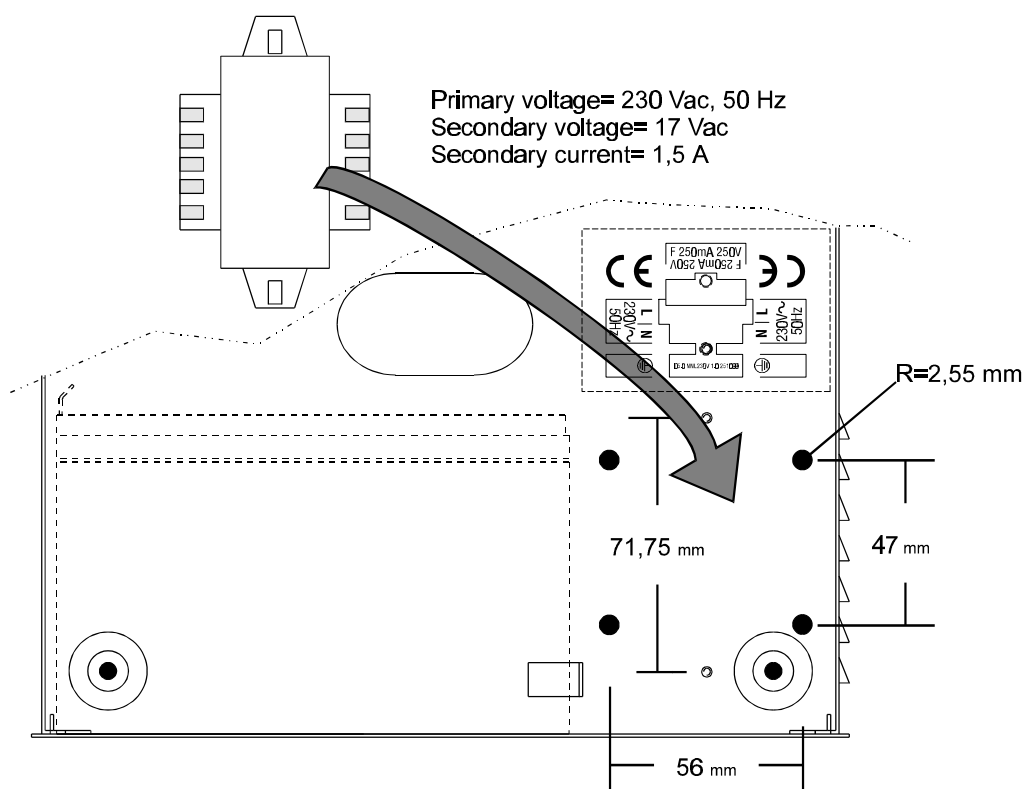

Figure 8 Transformer installation
3. Fit the transformer (not supplied) onto the screws on the backplate, use M3x10 screw nuts (not supplied) to fix it in place. If the transformer does not fit onto the screws, use the 4 holes (\varnothing 5.10 mm). The transformer must comply with the required specifications (refer to fig. 8), and must be fitted firmly in place, for maximum stability of the configuration.